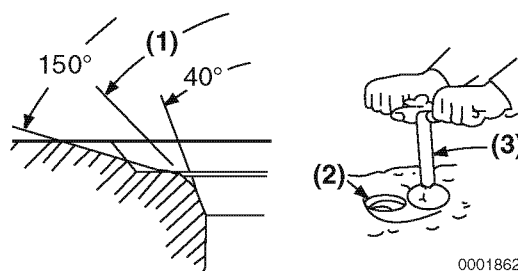

Figure 6-61
Light cutting can be performed by the use of a hand-operated cutter (**Figure 6-61**).
Valve seat diameter can be adjusted by top-grinding with a 150° stone to make the seat diameter smaller, and bottom-grinding using a 40° stone to make the seat diameter larger. Once the seat location has been corrected, grind and lap the seat angle (**Figure 6-61, (1)**) to specification. See *Cylinder Head* on page 6-4 for specifications.